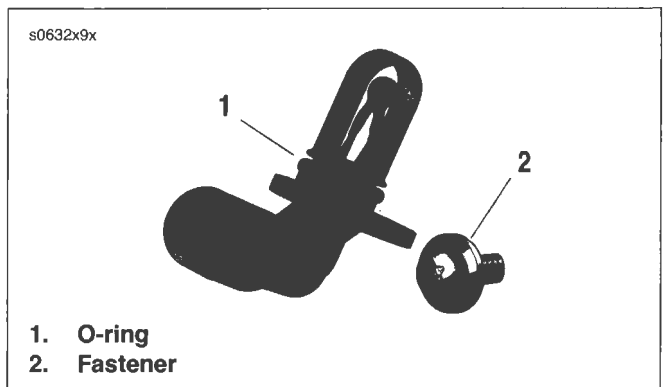

Figure 4-16. Intake Air Temperature Sensor
1. See Figure 4-16. Inspect O-ring (1) in groove of intake air temperature sensor for cuts, tears or signs of deterioration. Install **new** O-ring if necessary.
3. See Figure 4-16. Install fastener (2) and tighten to 15-20 **in-lbs** (1.7-2.3 Nm).